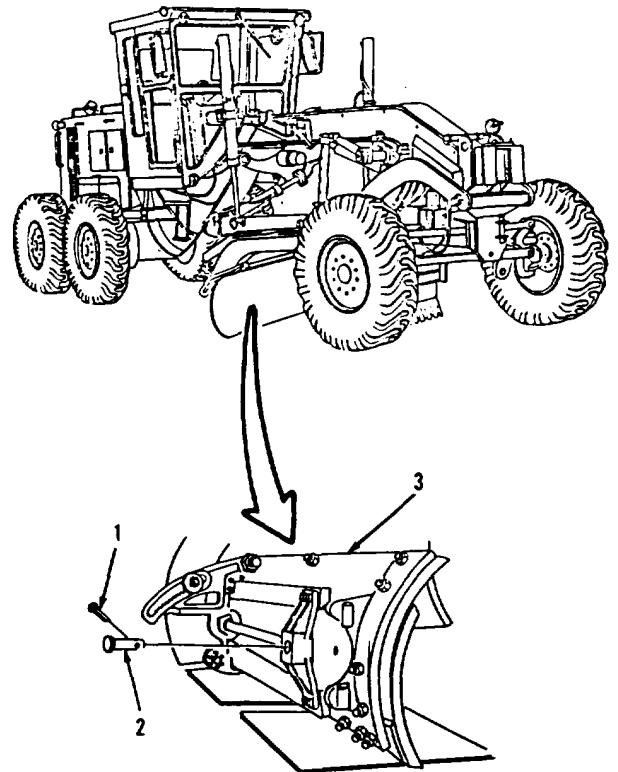

Figure 12-1.
1. Move blade assembly (3, Figure 12-1) as far to right as possible and lower until just off the ground.
2. Remove cotter pin (1) and pin (2). Discard cotter pin (1).